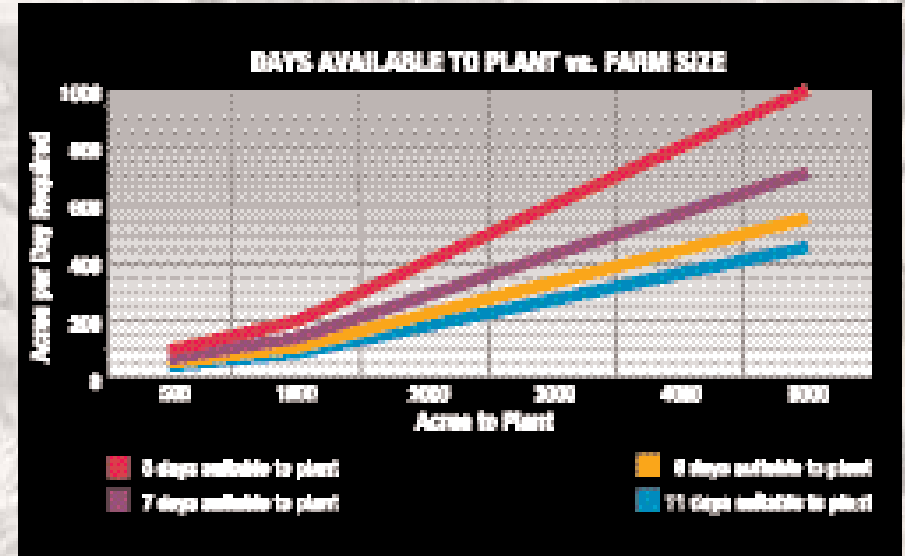

FIGURE 2. The number of acres per day required to assure timely planting depends on the size of your farm and the number of days that are fit to plant.
2. the **size of the farming operation** (see Figure 2).